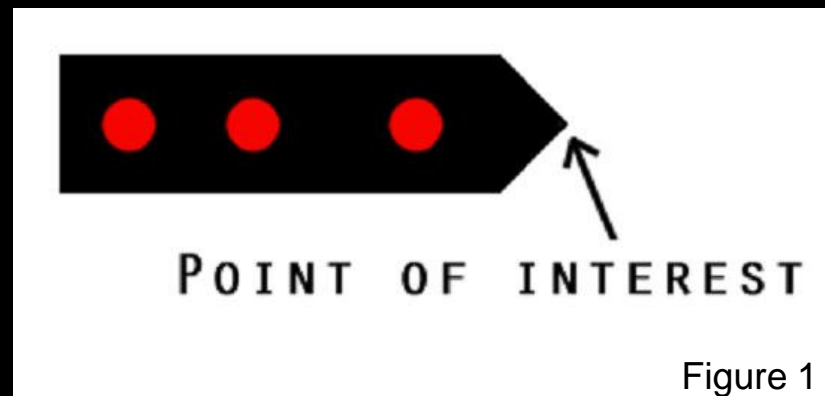

Figure 1
*iWitnessPRO* supports the use of triplet offset targets to facilitate automatic 3D measurement of untargetable features, where it is difficult to accurately place a single red retro-reflective target (such as the curved edges of a tabletop, or a kitchen countertop). The triplet offset target design is straightforward; the tip of the triplet offset designates the point of interest, as shown in Figure 1.